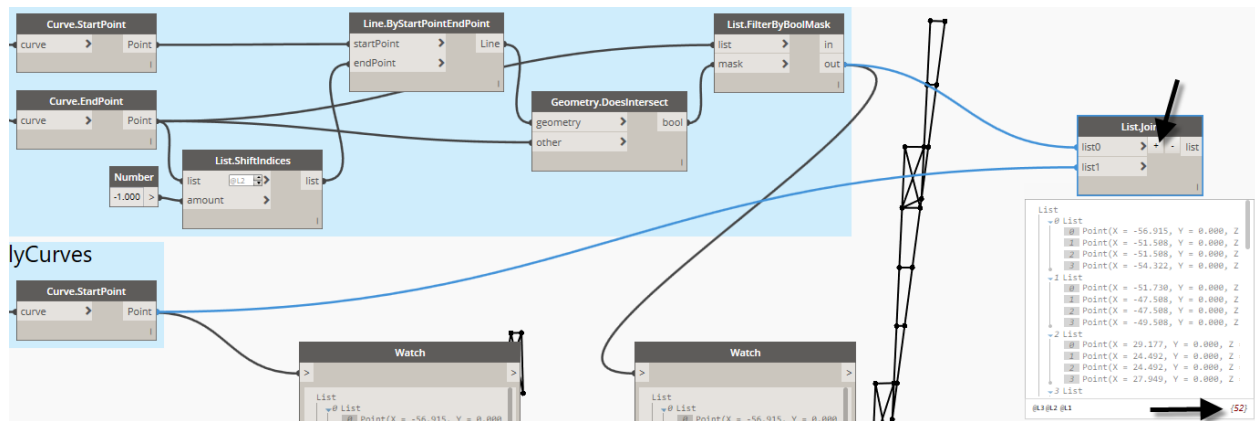

Figure 79
48. Wire the **out** port from the **BoolMask** in group 3 to the **list0** input and the **Point** output of **Curve.StartPoint** from group 4 into **list1** (see Figure 79).